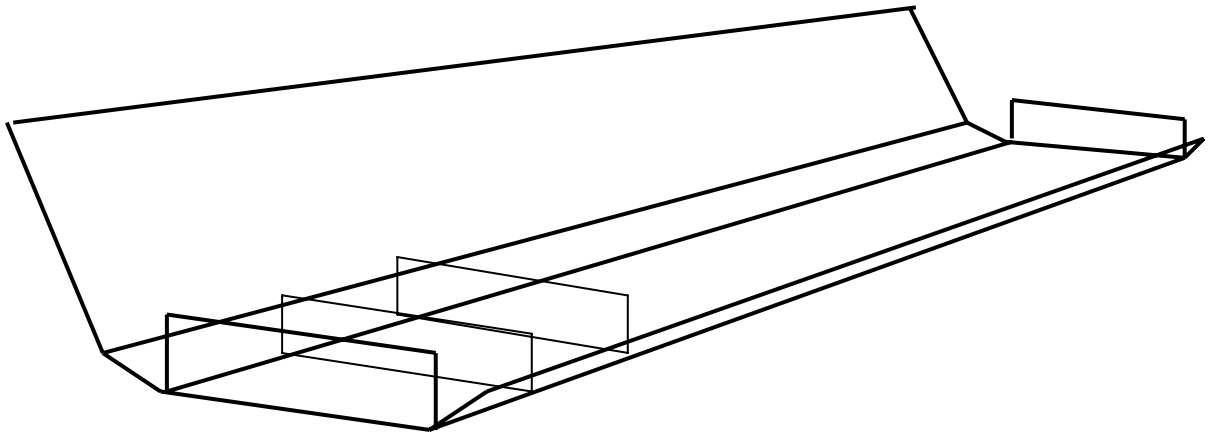

Figure 12: End pieces and diaphragm laced in position.
6.3: Lace End Pieces and Diaphragms in position as shown in Figure 12